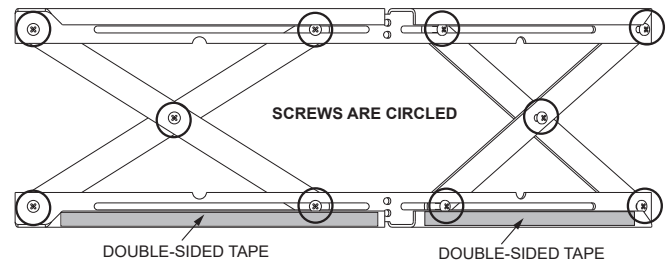

Figure 21.1
1. The 10 screws on each set of scissors will already be loose when shipped (**Figure 21.1**).